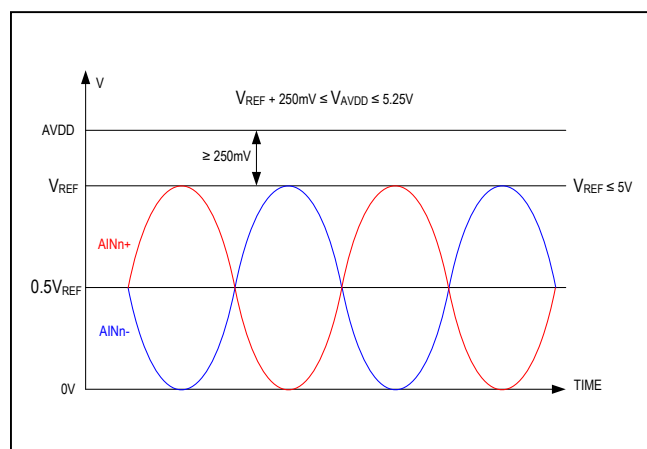

Figure 1. Input Signal Ranges
The differential analog input must be centered with respect to a common mode signal of V_{REF}/2, with a tolerance of ±100mV. The reference voltage can range from 2.5V to 250mV below the reference supply AVDD. This will guarantee adequate headroom for the internal reference buffers. Figure 1 illustrates signal ranges for AINn+/AINn-, reference voltage V_{REF} and reference supply voltage AVDD.
Figure 1: Transfer characteristic of the AD7544. The graph shows the Output Code (Two's Complement) versus the Differential Analog Input (LSB). The output code is 100...001 at the zero scale ($V_{IN} = -V_{REF}$) and 011...111 at the full scale (FS) ($V_{IN} = +V_{REF}$). The full-scale range is $2 \times V_{REF}$. The formula for LSB is given as $LSB = \frac{2 \times V_{REF}}{2^N}$, with $N = 12/14/16$.